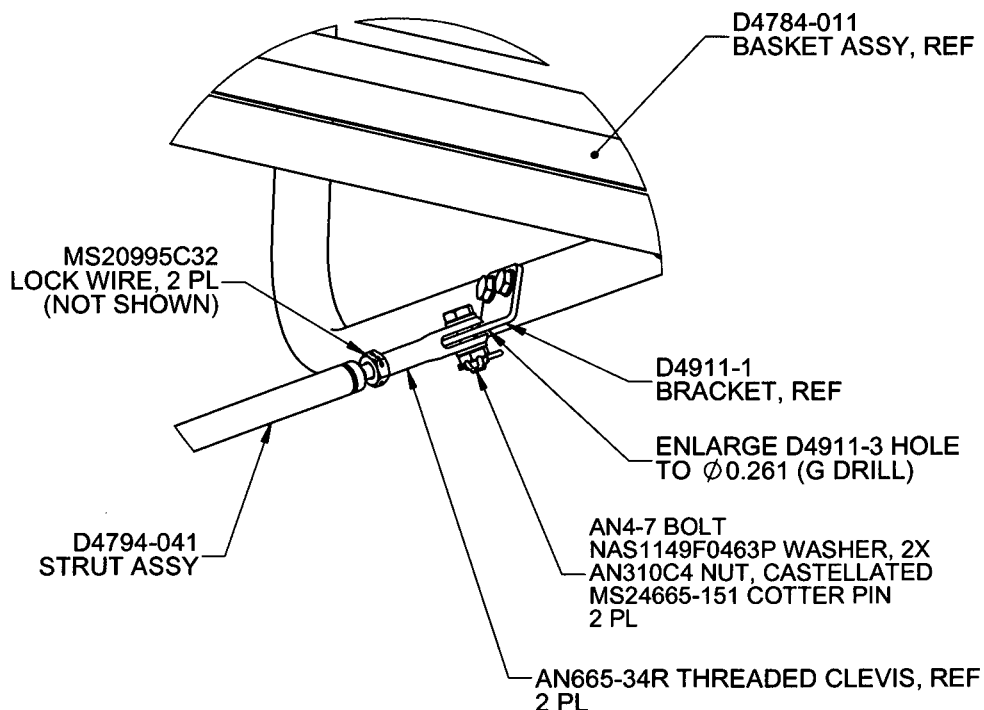

FIGURE 1
- 2.4 Install D4794-041 Strut Assy to D4911-1/3 Brackets, make adjustment to AN665-34R threaded clevises and lock with NAS509-4C jam nuts. Install D4794-041 Strut Assy using AN4-7 bolts, NAS1149F0463P washers, AN310C4 castellated nuts and secure with MS24665-151 cotter pins. Secure NAS509-4C Jam nuts using lock wire per AC43.13 or MS33540. AN4-7 bolt should be a slip fit in both ends of the strut assy. Refer to Figure 1 of this DSI.